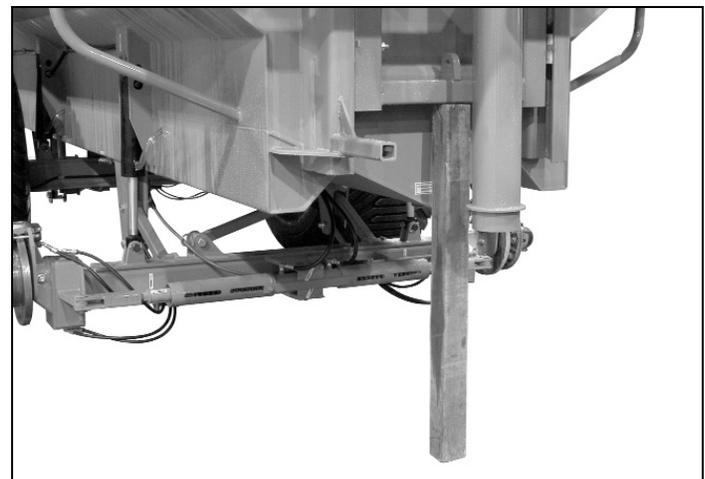

Fig. 4
- 1.6. Install a block to support the framework, then remove the winch - *fig. 4*.